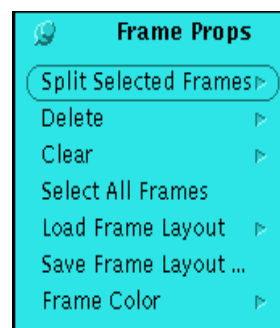

Figure 56. Frame Props Window
2. Hold down the right mouse button and move the cursor down the list of options shown in **Figure 56** to select a command. When the desired option is highlighted, release the button to select it.
You can store and retrieve Gframes by clicking on the Save Frame Layout and Load Frame Layout options in the Frame Props menu, shown in Figure 56. The files are stored into, and retrieved from, the `$CSIDIR/gframe` directory or a subdirectory. Gframes are retrieved with the same size and positions with which they were stored. They are not adjusted to fit the size of the graphics window. Frames that are entirely outside the current graphics region or overlap with existing frames are not loaded.
Use the Clear command in the Frame Props menu, shown in Figure 56, to erase the contents of all frames, selected frames, or unselected frames.